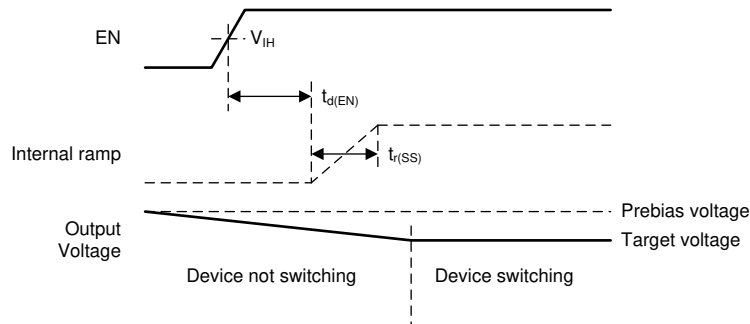

Figure 6-9. Start-Up Behavior into Prebiased (High) Output
- If the prebias voltage is *higher* than the target voltage, the device does not start to switch until the output voltage has decreased to the target voltage (see Figure 6-9). The device cannot actively discharge the output to the target voltage and relies on the load current to discharge the output capacitor and decrease the output voltage to the target value.